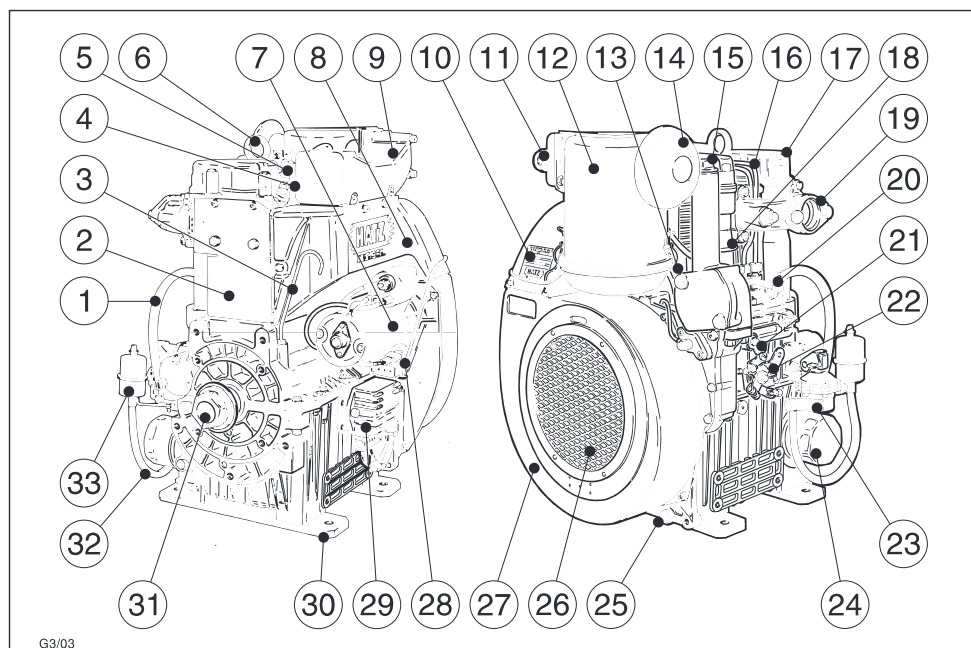

Fig. 1
The type plate is placed on the airguide (Fig. 1, pos. 10) and includes the following engine information:
- ① engine type
- ② code (only for special equipment)
- ③ engine number
- ④ max. engine speed